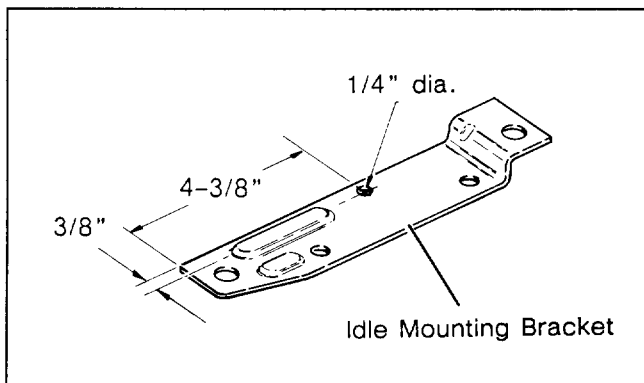

Figure 1
6. Remove (4) locknuts securing spindle assembly, deck spindle shims, idler mounting bracket and height adjustment channel to mower housing. Discard shims.
8. Remove idler mounting bracket from height adjustment channel. Using dimensions shown in fig. 1, locate, mark and drill a 1/4 inch dia. hole in idler mounting bracket.